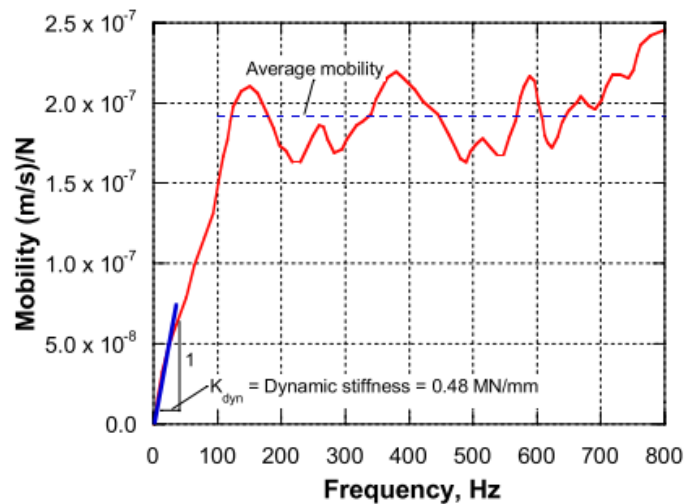

Figure 1: Mobility vs. Frequency
The Impulse-Response system uses a low-strain impact, produced by an instrumented rubber tipped hammer, to send stress waves through the tested element. The impact causes the element to vibrate in a bending mode and a velocity transducer, placed adjacent to the impact point, measures the amplitude of the response. The hammer load cell and the velocity transducer are linked to a portable field computer with software for data acquisition, signal processing and storage. The time histories of the hammer force and the measured response velocity are transformed into the frequency domain using the fast Fourier transform (FFT) algorithm. The resultant velocity spectrum is divided by the force spectrum, to obtain the mobility as a function of frequency. An example of such a mobility plot is shown in Figure 1 for a solid concrete member. Mobility is expressed in units of velocity per unit force, such as (m/s)/N.
- The dynamic stiffness (the inverse of initial the slope of the mobility plot, the blue line in Figure 1);